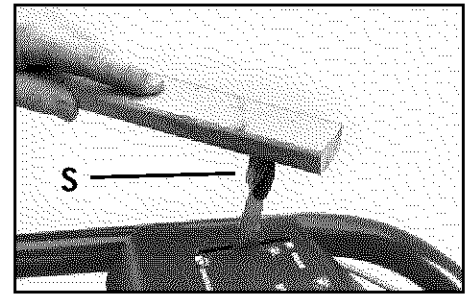

Figure 2-15 Install knob onto wheel gear lever.
1. Route the wheel gear cable up the left-side handlebar and insert the lever (S, Figure 2-15) up through the slot in the control panel, labeled *WHEEL GEAR*.
4. Place the wheel gear lever knob on the end of the lever and use a board to tap the knob down until it seats firmly on the lever (see Figure 2-15).